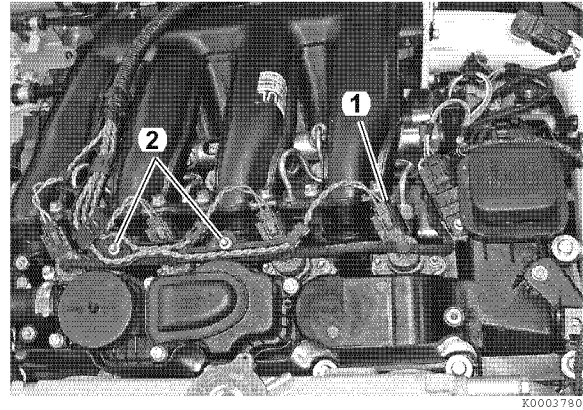

Figure 5-127
1. Remove injector harness connectors (1, Figure 5-127) from all fuel injectors.
2. Remove screws (2, Figure 5-127) and move injector harness out of the way.